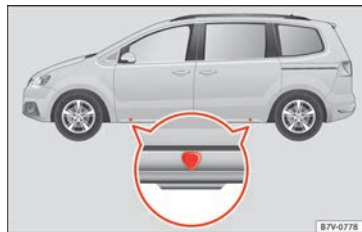
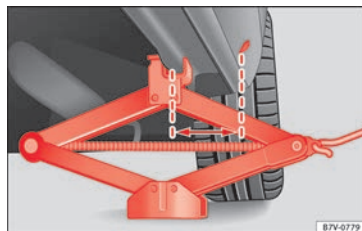

Fig. 68 Jack position points.
Fig. 69 Jack mounted on the left rear part of the vehicle
The jack may be applied only at the jacking points shown (marks on chassis) » **Fig. 68**. The mark indicates the jacking points **below** the vehicle. The jacking points are on the ribs **behind** the front edges » **Fig. 69**. Always the relevant jacking point for the wheel to be changed » **▲**.
6. Look below the vehicle for the jacking point » **Fig. 68** closest to the tyre which has to be changed.
8. Ensure that the foot of the jack is firmly on the ground and that it is placed immediately below the lifting point on the vehicle » **Fig. 69**.
9. Straighten the jack and continue raising it using the handle until the claw holds the vertical reinforcement beneath the vehicle » **Fig. 69**.
- Only fit the jack at the prescribed jacking points. The claw of the jack should grip the reinforcement nerve on the underbody » **Fig. 69**.